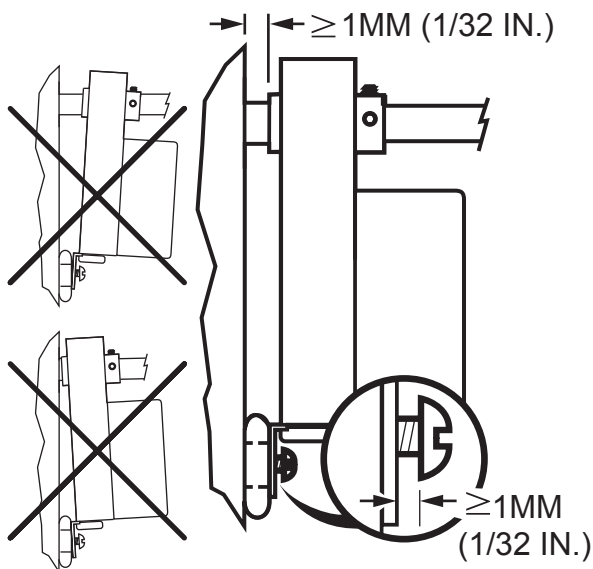

Fig. 4. Mounting W7751J to VAV box damper housing when actuator is not parallel to VAV box damper housing.
The W7751J actuator is shipped in the fully clockwise (CW) position (90 degree). The W7751J Assembly must be mounted to a horizontal damper shaft to assure proper heat dissipation from the controller housing. Mount the W7751J so that the actuator is parallel with the VAV box damper housing. In general, it is recommended that a washer or spacer be added between the VAV box damper housing and the actuator mounting tab to keep them parallel. See Fig. 4.
Mount actuator flush with damper housing or add spacer between mounting tab and damper box housing. (See Fig. 4.)